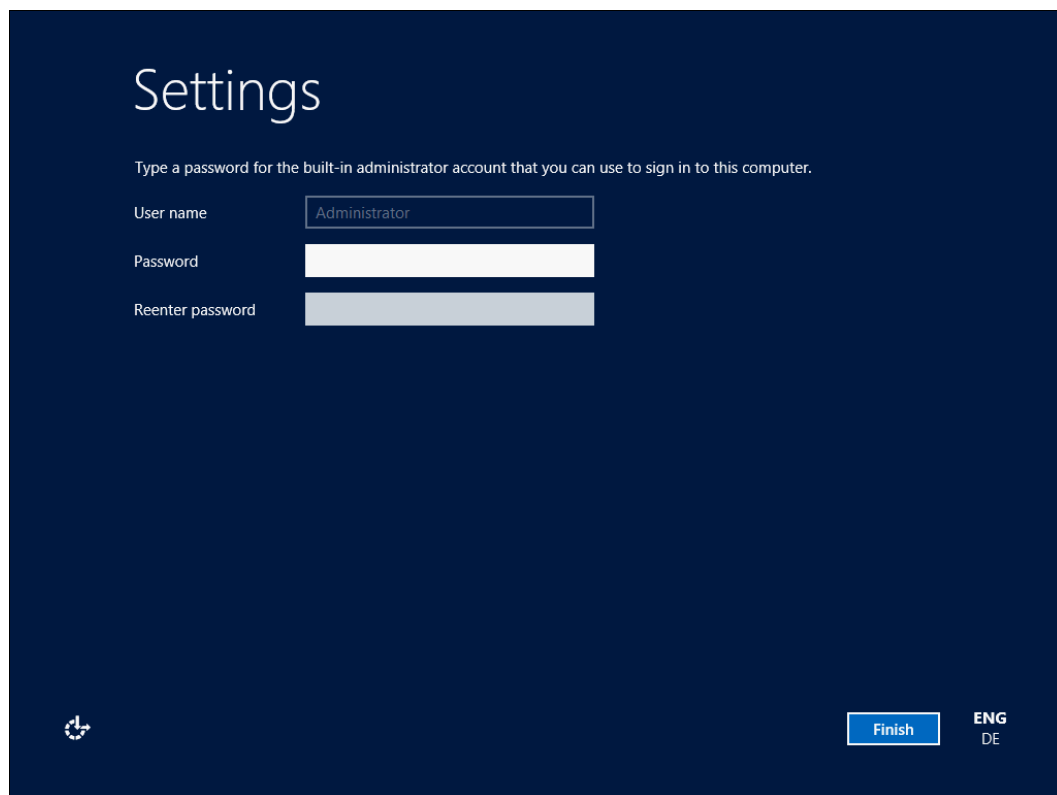

Figure 9-67 Password prompt after installing Windows
8. When Windows is done installing and you are prompted to enter a password (Figure 9-67), click **OK**, and then enter your password.